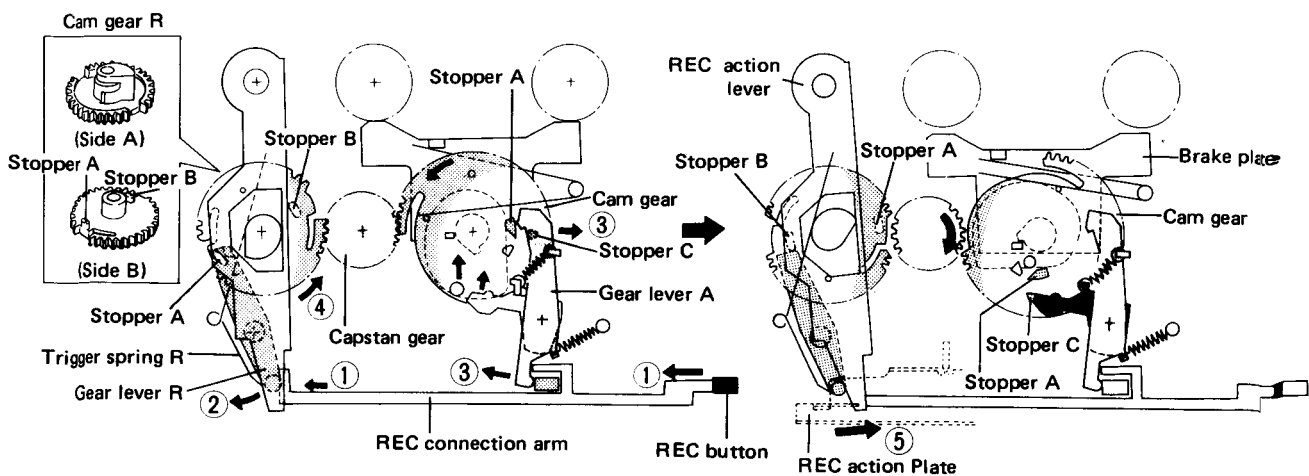
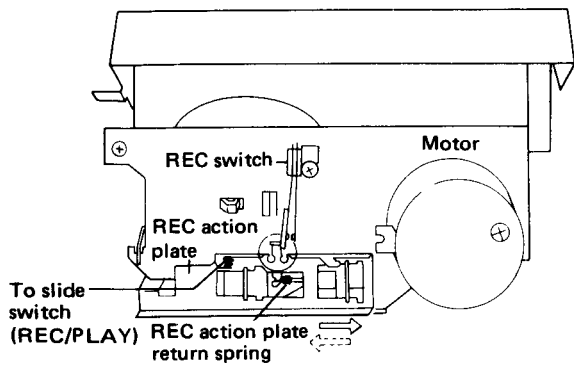

Fig. 13-6 STOP → REC operation
Fig. 13-7 STOP → REC operation (REC switch ON)
**REC Operations (Fig. 13-6, 13-7)**
1. When the REC button is pressed, the cam on the REC button moves the REC connection arm in the ① direction, gear lever R in the ② direction, and gear lever A in the ③ direction.
2. With the movement of gear lever R, stopper A on cam gear R is released from gear lever R, cam gear forced down by the pressure exerted by trigger spring R, and starts rotating in the ④ direction. It then commences to mesh with the capstan gear.
4. At this time, the shape of the cam on cam gear R causes the REC action lever to move in the ⑤ direction, pressing on the REC action plate. (Fig. 13-7).